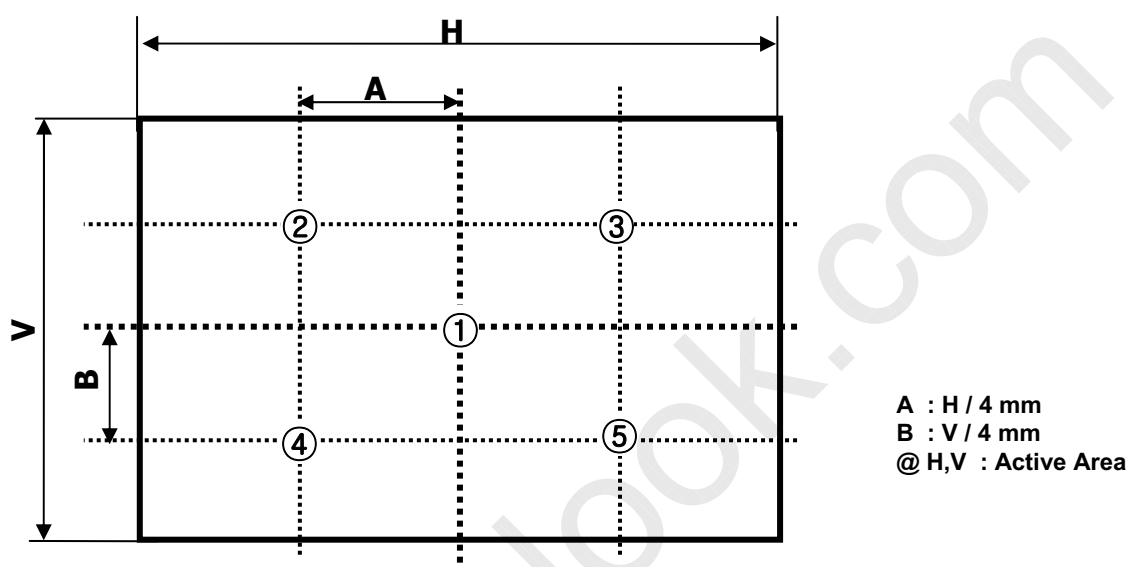

FIG. 2 5 Points for Luminance Measure
- Surface luminance is determined after the unit has been 'ON' and 1Hour after lighting the backlight in a dark environment at  $25 \pm 2^\circ\text{C}$ . Surface luminance is the luminance value at center 1-point across the LCD surface 50cm from the surface with all pixels displaying white. For more information see the FIG. 2.
For more information, see the FIG. 2.